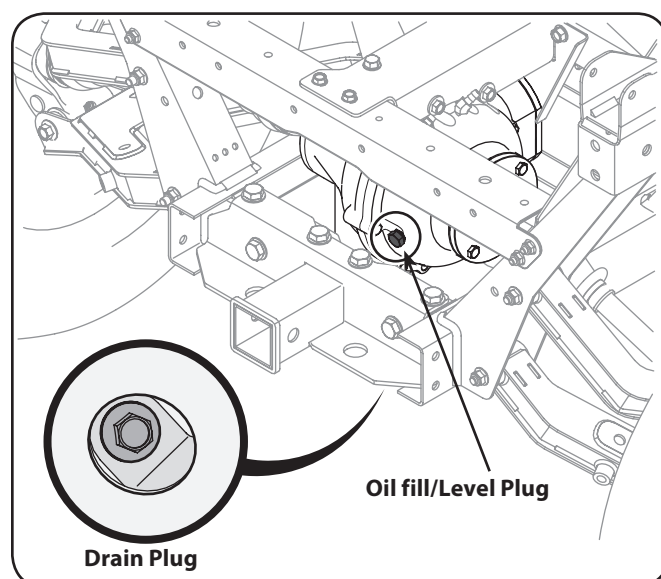

Figure 5-6
4. Locate the Oil fill/Level plug, refer to Figure 5-6. Remove the plug, and oil should begin to seep out. If no oil seeps out, slowly add oil through the oil Fill/level port until oil begins to seep through the oil fill/level plug port.
1. Locate the drain plug on the bottom, front side of the differential, through a cut-out in the skid plate. Remove the drain plug. See Figure 5-6.